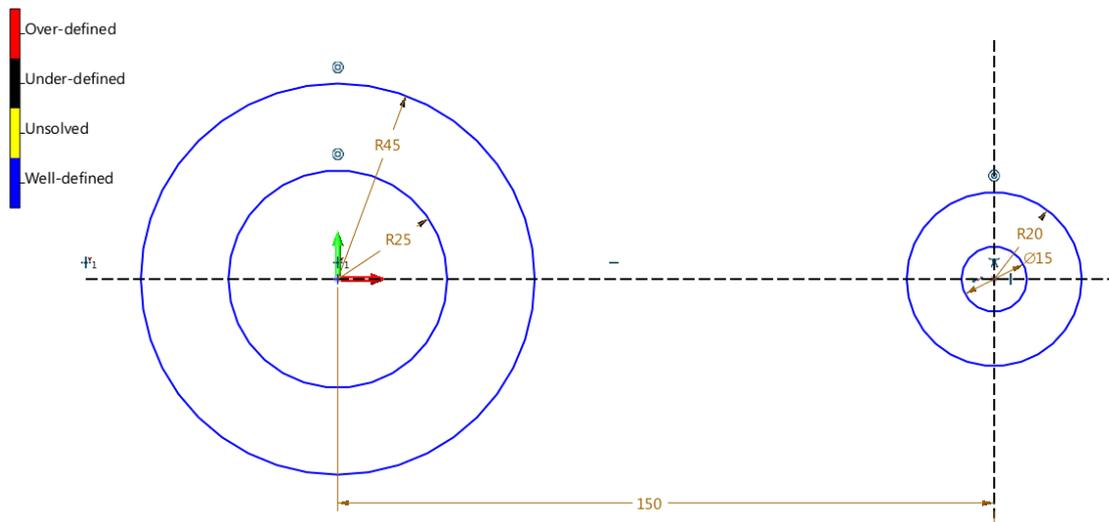

Figure 101 Draw the Base Circles
STEP 05 Add the constraint for the circle center and intersection point with “Point to Intersection” feature. Turn on “constraint status color”, and then check the sketch. The result is shown in the Figure 101.